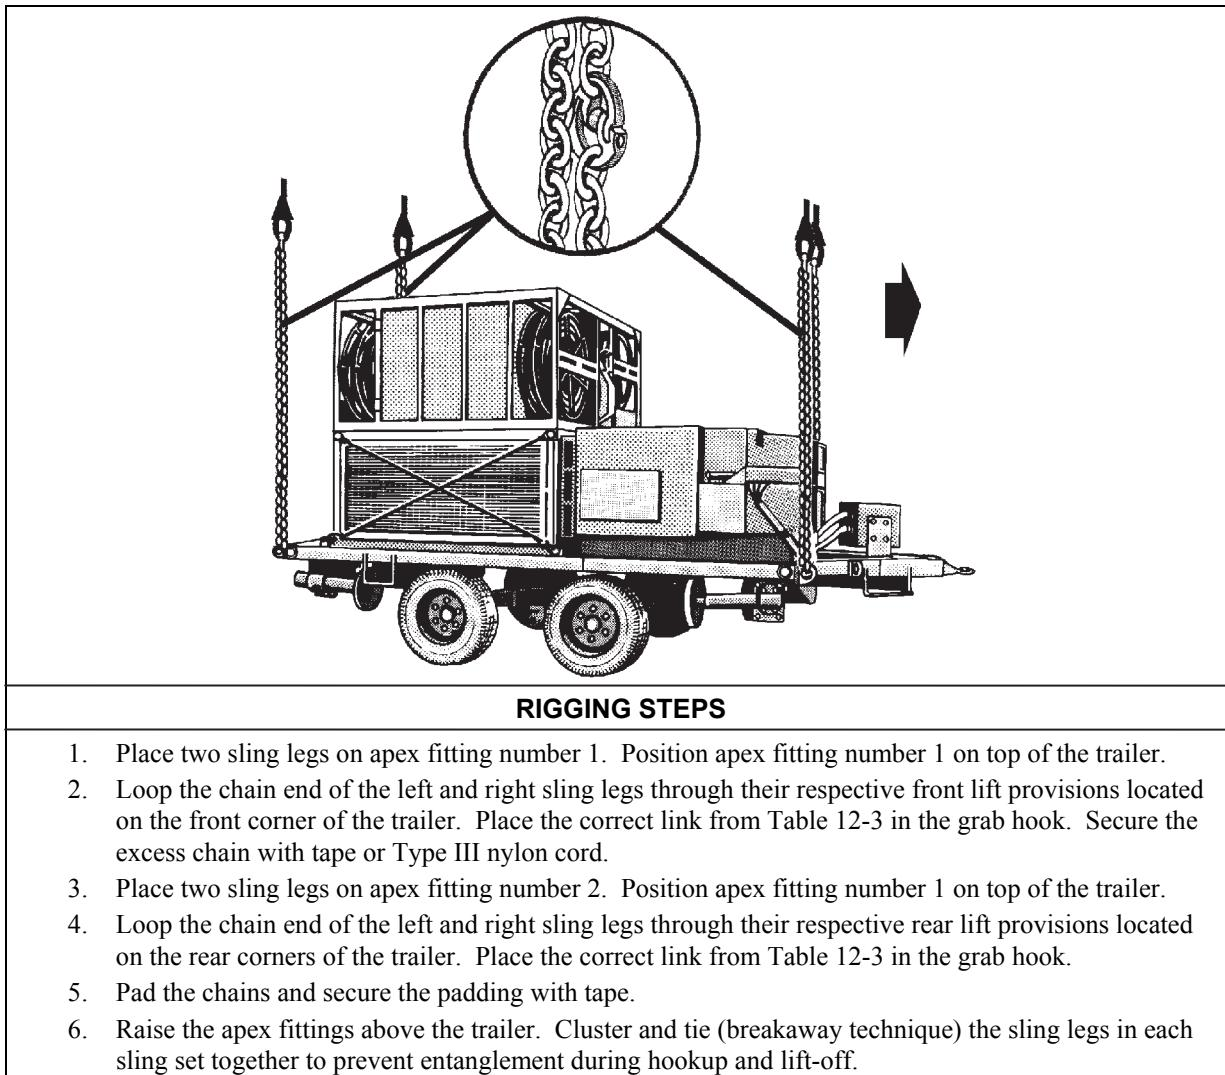

Figure 12-3. Digital Group Multiplexer, Digital Antenna Mast Program, Pallet Trailer
- **Rigging.** Rig the load according to the steps in Figure 12-3.